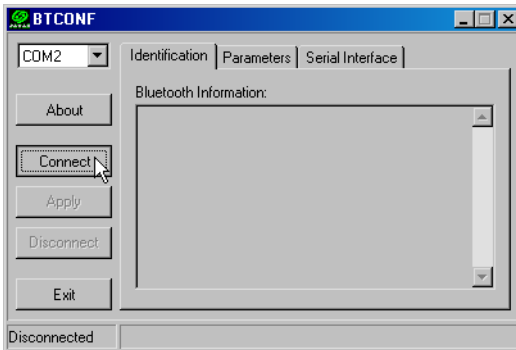

Figure 2-31. Select Communication Port and Click Connect
4. From the drop-down list in the upper left corner, select the computer serial port used for communication (Figure 2-31).
5. Click **Connect** to connect the computer and Bluetooth® module (Figure 2-31).